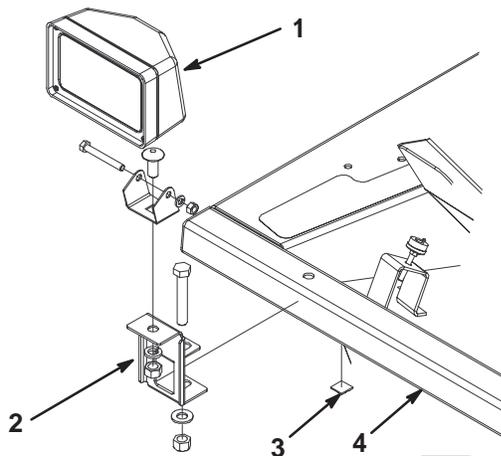

Figure 9
- Fasten the headlight brackets to the existing holes in front of the operator's platform with a screw (1/2–13 x 3 in.), flat washers, and locknuts (Fig. 9).
- Fasten the headlight assemblies to the headlight brackets (Fig. 9) with carriage bolts, lock washers, and hex nuts furnished in the kit.